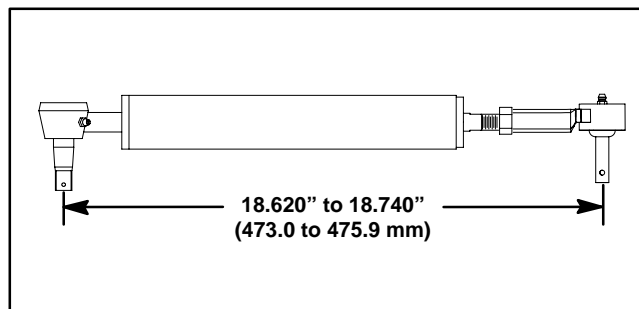

Figure 69
1. If ball joint was removed from cylinder shaft, install ball joint onto shaft the same number of revolutions needed to remove ball joint. Secure ball joint with jam nut. After ball joint installation, the distance between ball joint centers should be from 18.620 to 18.740 in (473.0 to 475.9 mm) with the cylinder shaft fully retracted (Fig. 69).